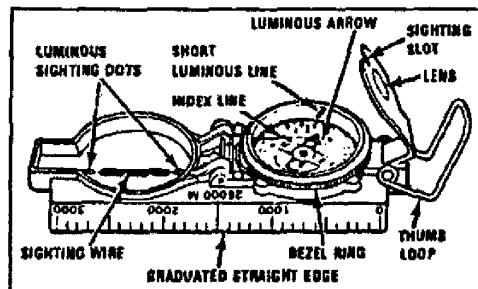

Figure C-19. Lensatic compass
1. Read your compass (figure C-19).